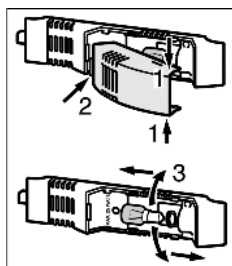

Fig. 18
- ▶ Take hold of the lamp cover at the top and bottom *Fig. 18 (1)*.
- ▶ Disengage the lamp cover at the back and detach it *Fig. 18 (2)*.
- ▶ Replace the lamp *Fig. 18 (3)*.